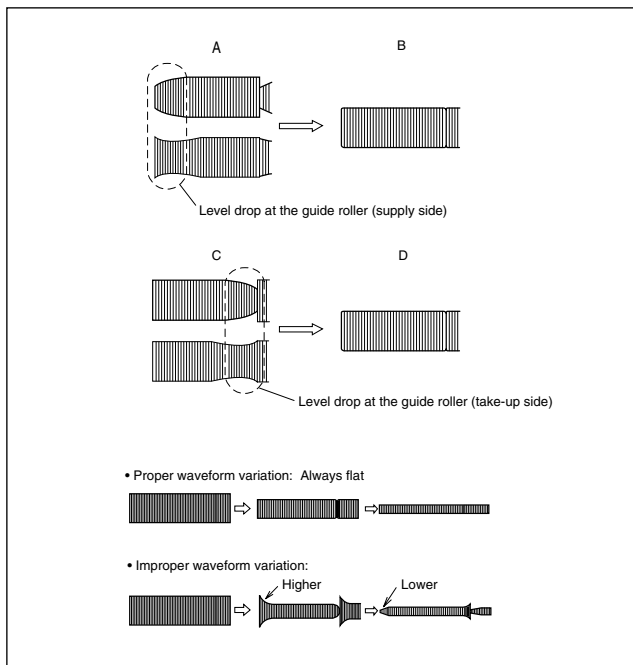

Fig. 2-3-1c
- (5) Reduce the V.PB FM waveform by the tracking operation. If a drop in level is found on the left side, turn the guide roller of the pole base assembly (supply side) with the roller driver to make the V.PB FM waveform linear. If a drop in level is on the right side, likewise turn the guide roller of the pole base assembly (take-up side) with the roller driver to make it linear. (See Fig. 2-3-1c.)
- (6) Make sure that the V.PB FM waveform varies in parallel and linearly with the tracking operation again. When required, perform fine-adjustment of the guide roller of the
- (7) pole base assembly (supply or take-up side).